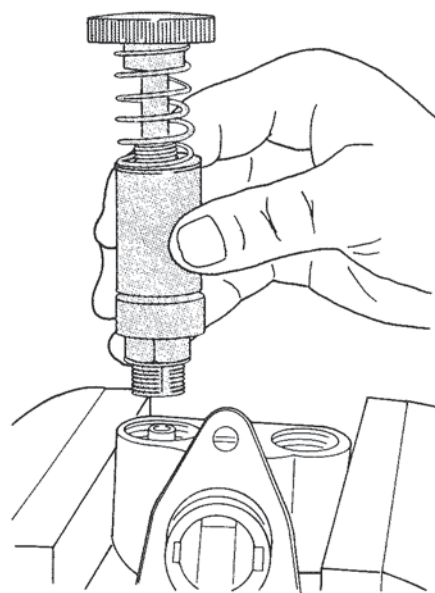

Figure 19. Installing Priming Pump.
A. Install check valve and spring, ring, priming pump, priming pump spring and cover. Figure 19.